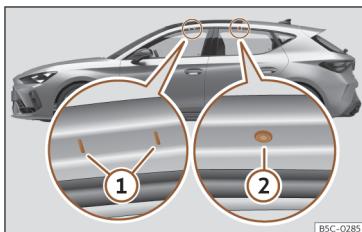

Fig. 201 Mounting points for the roof bars for the roof rack (Leon).
Valid for Leon: The front and rear attachment points ① and ② are only visible when the doors are open >>> **Fig. 201**.